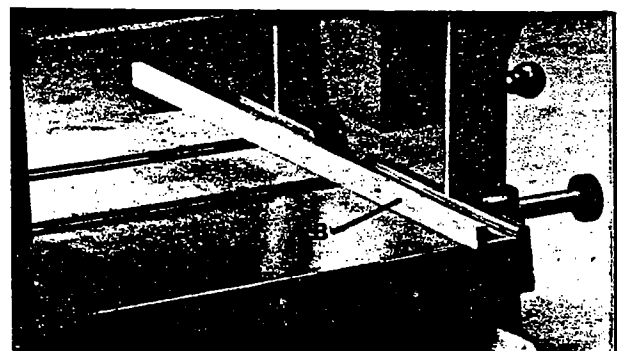

Fig. 32
2. Lay a straight edge (B) Fig. 32, across both rolls and turn screws (E) to raise or lower table rolls (A). Table rolls must also be adjusted on the opposite end of table in the same manner. The table rolls must always be set parallel to the table.